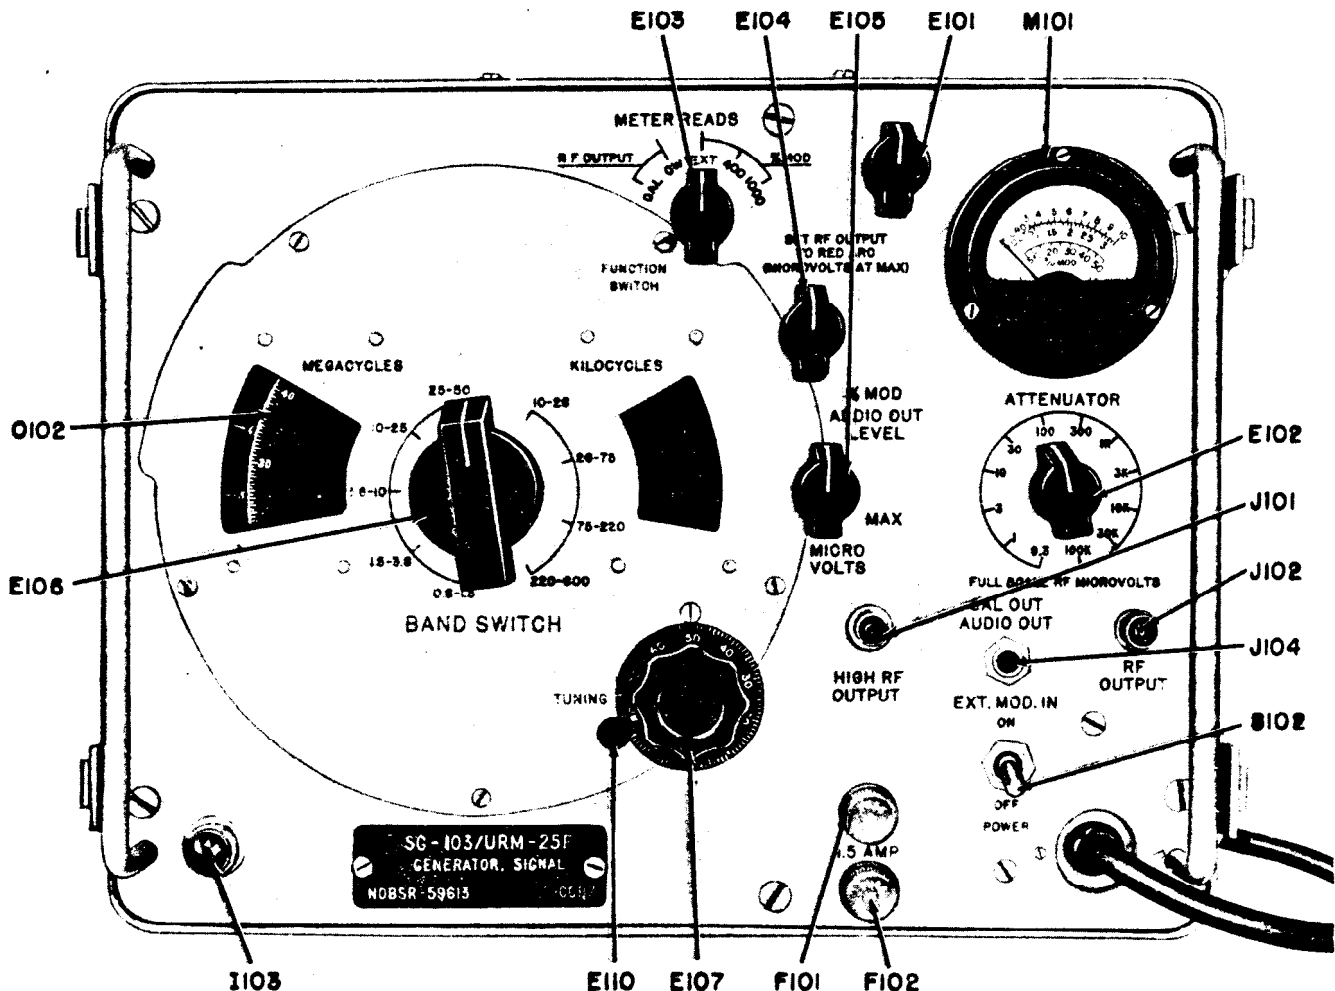

Figure 4-1. RF Signal Generator AN/URM-25F Front Panel
2. POWER CIRCUIT. (See figure 4-1.)
3. SETTING CARRIER FREQUENCY. (See figure 4-1.)
Refer to figure 4-1
(See figure 4-1.)